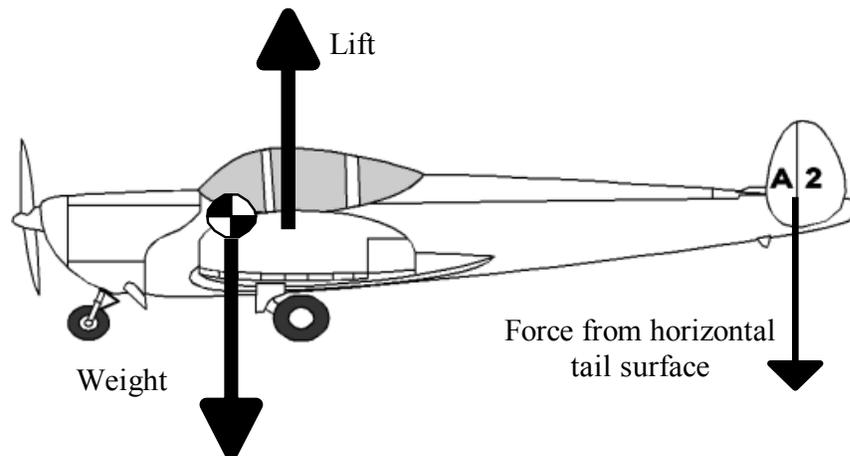

Figure 2-5
Balance refers to the location of the center of gravity (CG) of an airplane and is critical to airplane stability and safety of flight. While gravity obviously affects the entire aircraft, for computations it can be assumed that the aircraft's weight is concentrated at the center of gravity. Figure 2-5 shows that gravity pulls down on the center of gravity, and the wings produce lift to counteract that force. The horizontal tail surface produces lift in a downward direction to balance weight and lift and keep the aircraft level. The pilot can change the force created by the horizontal tail by deflecting the elevator, and that causes the nose of the aircraft to go up and down. The purpose of planning aircraft balance before flight is to ensure the horizontal tail can generate enough lift to balance the aircraft and provide sufficient pitch control. The pilot controls the balance of the aircraft by calculating the center of gravity and loading the airplane to keep the cg within certain limits.